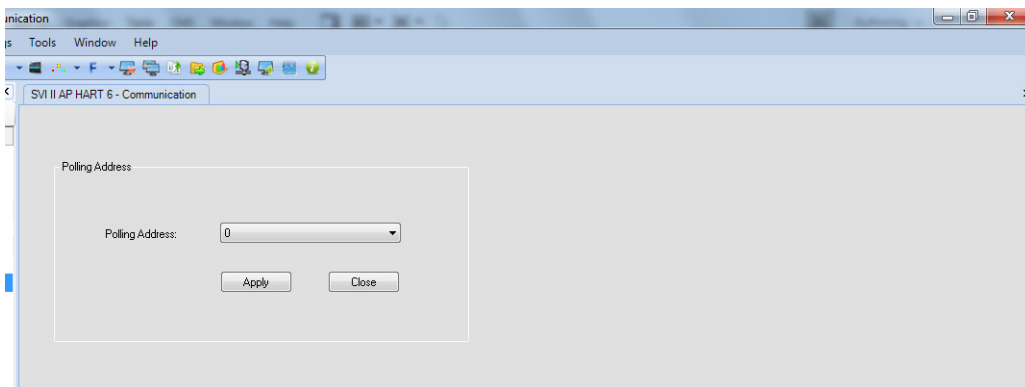

Figure 8 Communication Tab
- ✓ Right-click on the device in the topology pane, select **Additional Functions > DTM Address** and Figure 8 appears. Correct the *Polling Address* and click **Apply**. Disconnect and then reconnect.